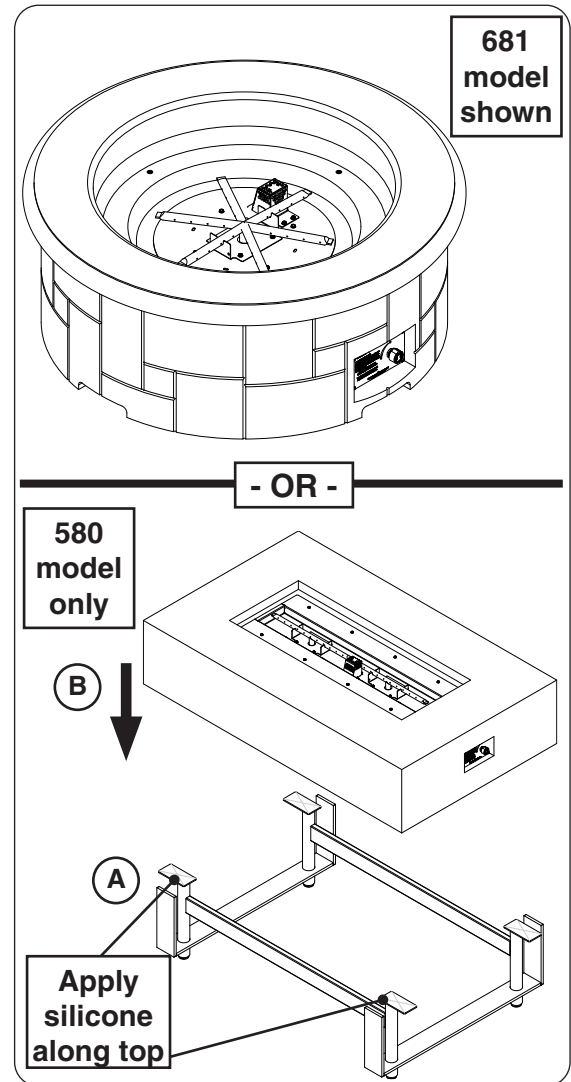

Fig. 25-1 Place unit
1. **CAREFULLY** place the unit in an appropriate location, and assemble if needed (see Fig. 25-1, and refer back to the LOCATION section if needed).